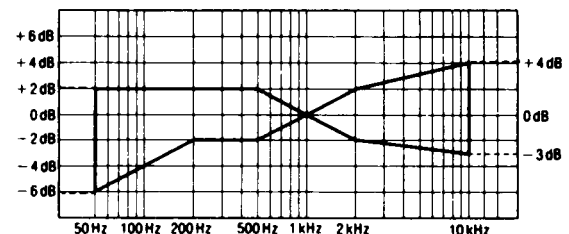

Fig. 5
4. Play back the test signals just recorded and verify that the levels at the test frequencies fall in the ranges specified in Fig. 5 with respect to the reference signal level.